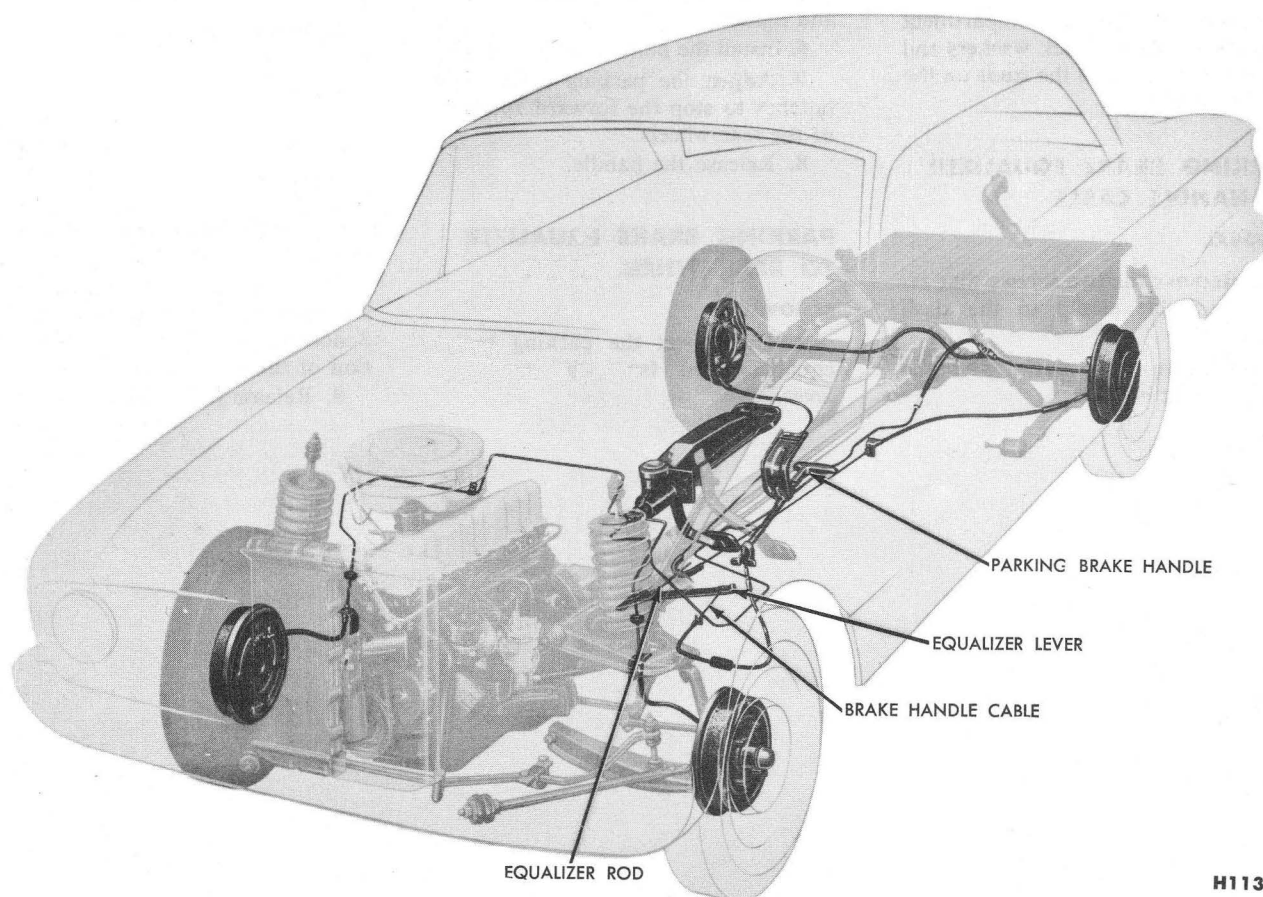

FIG. 1—Parking Brake Linkage
2. Loosen the locknut on the equalizer rod (Fig. 1), and then turn the nut in front of the equalizer several turns forward.